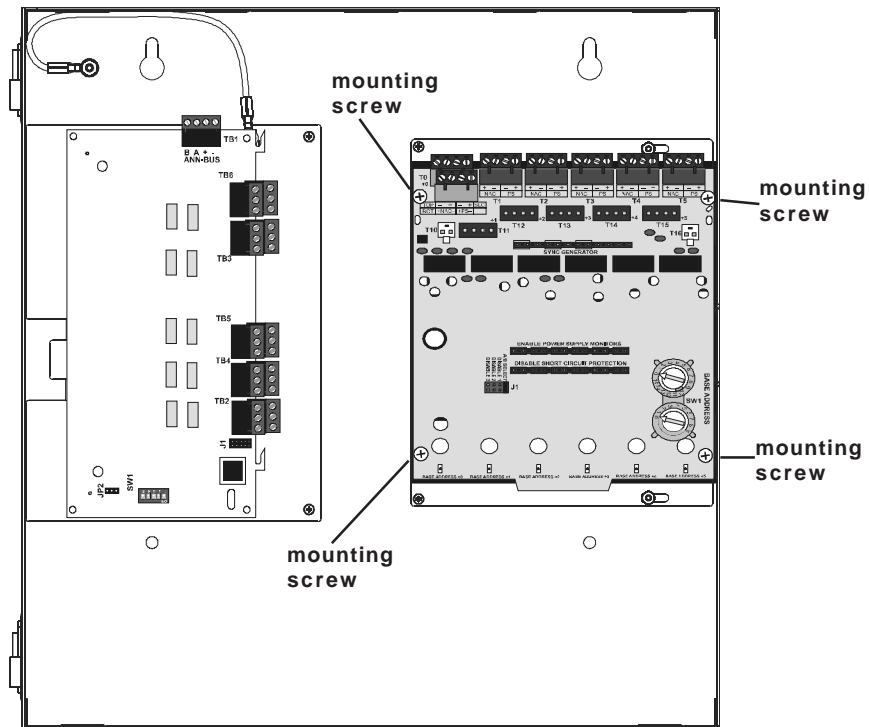

Figure 7
5. Secure the addressable Multi-Module to the MULTIMOD-BRKT bracket with the four supplied mounting screws as illustrated in Figure 7.